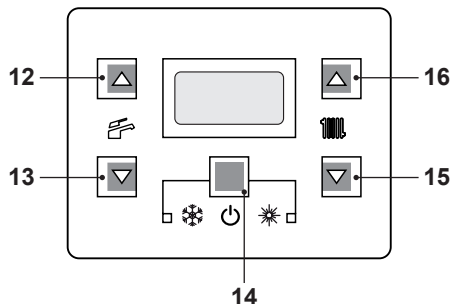

Fig. 2.7
- Press the key 14 for 2 seconds until the symbol appears on the display Fig. 2.7.
The output temperature of c.h. water can be adjusted by acting on keys 15 (reduce) and 16 (increase) (Fig. 2.7) from a minimum of about 25°C to a maximum of about 85°C. Press one of the two keys once to display the "set" value. Press again to access the modification.
However, if the ambient temperature is not comfortable, the flow temperature of the heating plant can be increased or reduced by  $\pm 15^{\circ}\text{C}$  by acting on keys 15 (reduce) and 16 (increase) (Fig. 2.7).
The temperature of the d.h.w. can be adjusted by acting on keys 12 (increase) and 13 (reduce) (Fig. 2.7) from a minimum of about 35°C to a maximum of about 60°C. Press one of the two keys once to display the "set" value. Press again to access the modification.